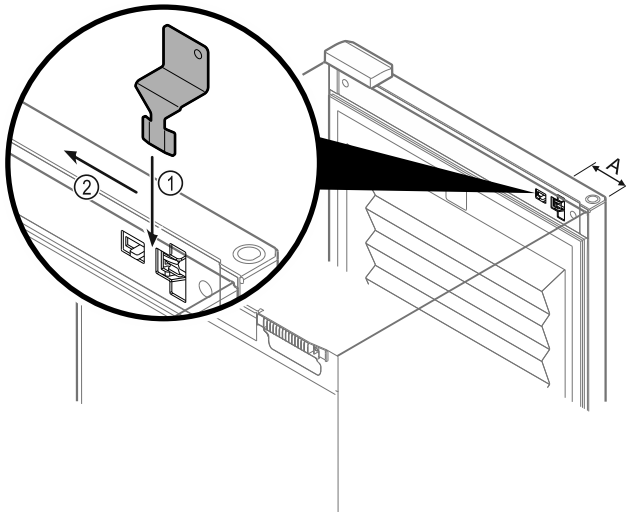

Fig. 136
- Insert the emergency release key in the specified position Fig. 136 (A) \approx 100 mm.
- Insert the emergency release key Fig. 136 (1) between the door and the body of the appliance from above to the end stop.
- Pull the emergency release key towards the hinge. Fig. 136 (2)